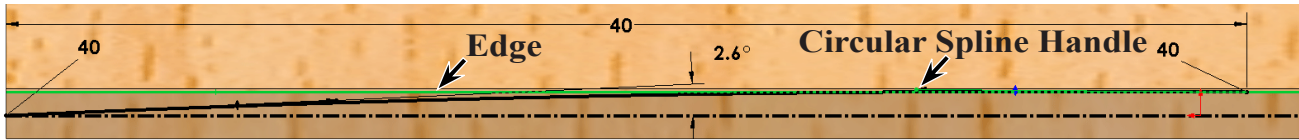

Fig. 27
Step 15. **Ctrl click the Circular Spline handle**  of **Spline Point 2** and the top edge of Wing to select both, **Fig. 27**. Click **Make Collinear**  on the Property Manager, **Fig. 28**.